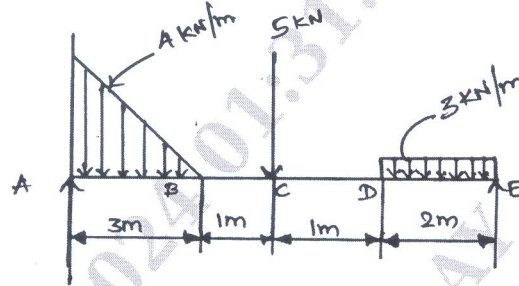

Fig.Q3(a)
- 3 a. Analyse the beam as shown in Fig.Q3(a) and draw the SFD and BMD for the same.